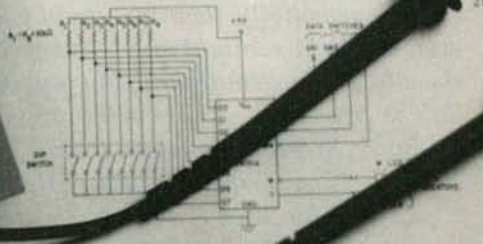
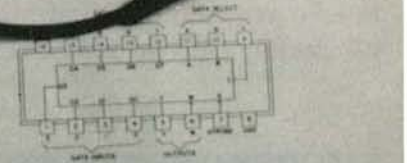

Fig. 16 Circuit for Experiment 2
Fig. 17 Pin diagram for 74131A
Figure 16 shows the circuit diagram for this experiment. You'll note that pin numbers for the IC aren't included on the diagram. For those, you'll have to refer to Fig. 17, which shows pertinent 74131A data. For the data input, you'll use an eight-pole DIP switch in conjunction with 10 k Ω pull-up resistors. For the Select and Strobe lines, finally, you'll use the trainer data switches.
2. Connect the eight 10 k Ω resistors to the DIP switch as shown in Fig. 16. Connect the opposite end of each of these resistors to the +5V supply. The second terminal of each switch is to be connected to trainer ground.
4. Next, connect the trainer data switches to the Select and Strobe inputs on the IC, using Fig. 17 as a guide. Initially, set SW1 through SW7 to 0.